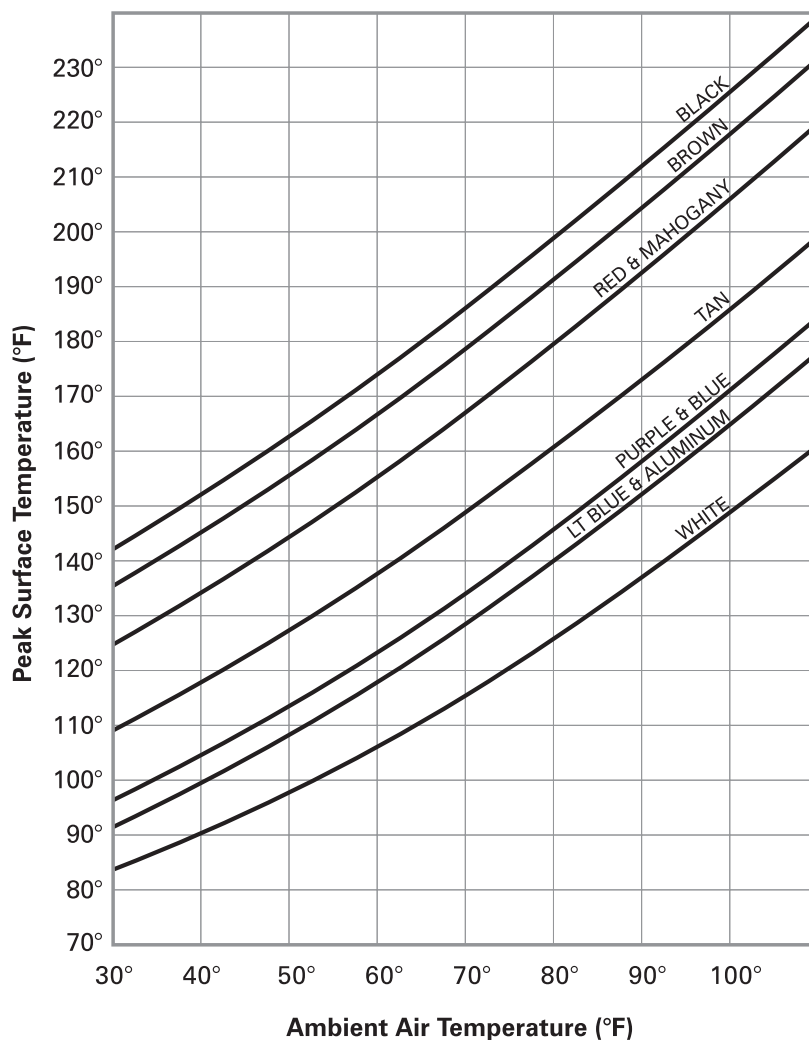

Figure 7-1 Effect of color on surface temperature under sunlight.
4. Lighter colored woods are more reflective than darker colored woods, just as lighter colored paints are far more reflective than are darker colors (Figure 7-1).
The longest-lasting finishes are fully pigmented paints. Pigments filter out all or most of the harmful UV rays, thus protecting the substrate. However, a slow oxidation of the surface occurs over many years, causing it to lose its gloss. Light colored paints are more reflective and maintain their gloss longer than darker colors. Protecting the substrate from heat is another important reason to choose lighter colors (*Figure 7-1*).